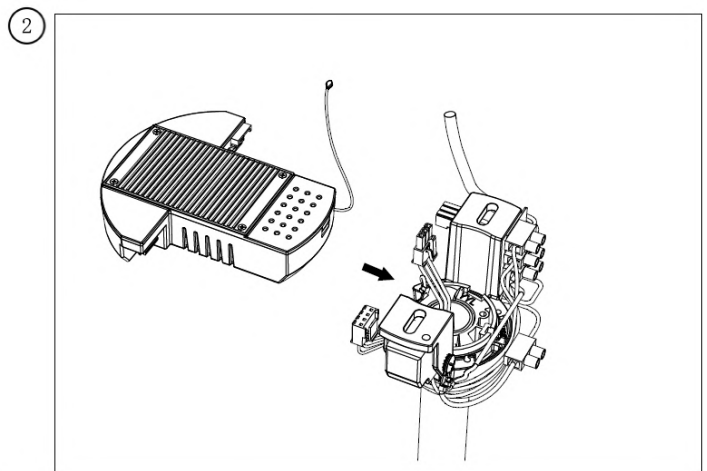

Fig. 5.2
2. Install the drive component onto the hanger by pushing through the mounting bracket; (Fig. 5.2)